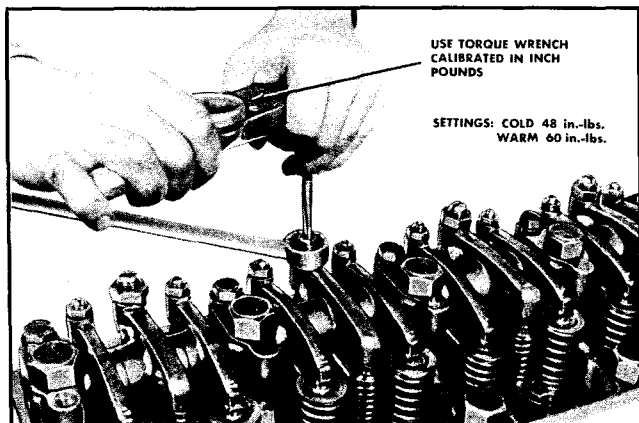

Fig. 3-12. Adjusting injector plunger
9. Tighten adjusting screw to "cold" setting shown in Table—Injector Adjustment. Use a torque wrench equipped with a screw driver adapter, graduated in inch-pound divisions, and having a maximum capacity of 150 inch-pounds. See Fig. 3-12.